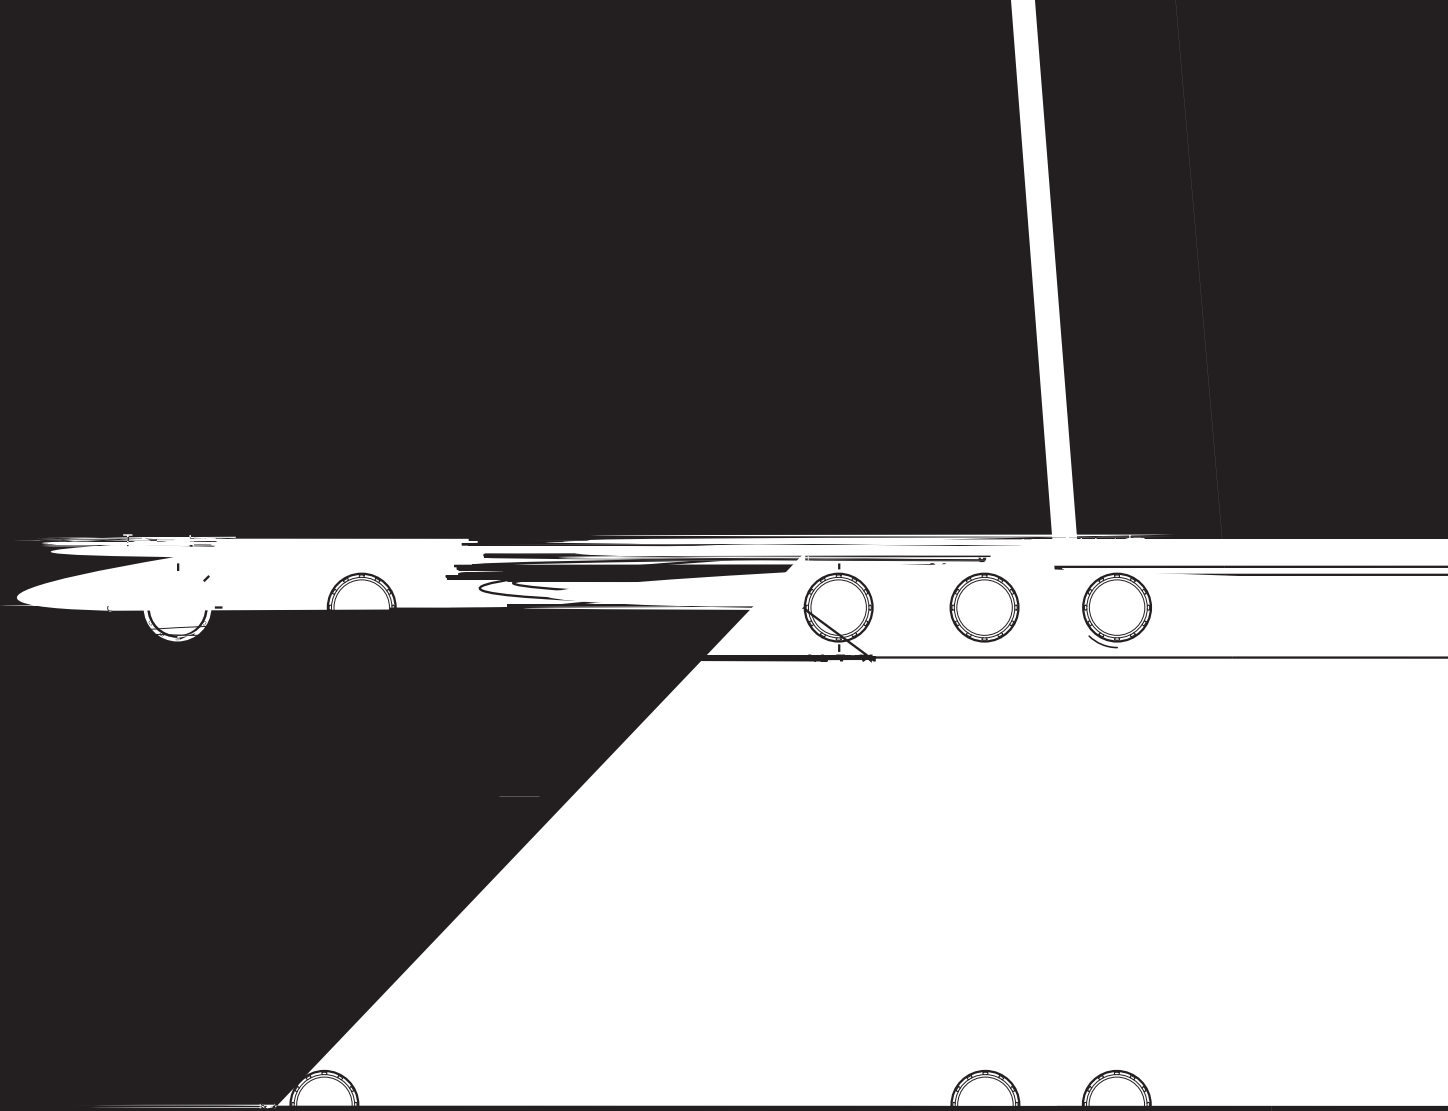
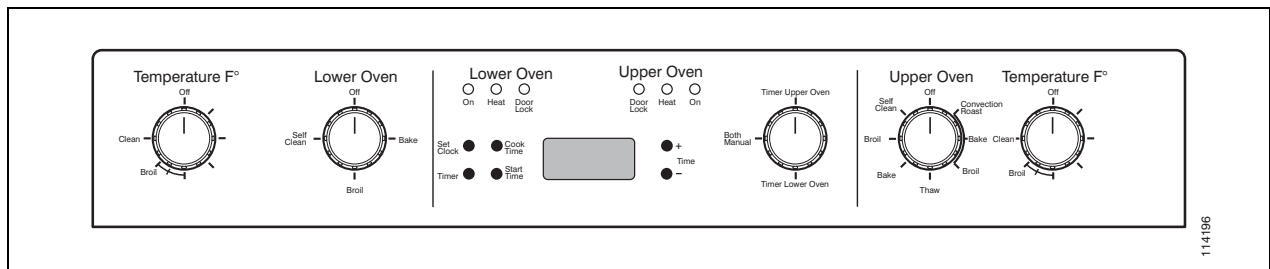

Figure 3.
Figure 7. Double Oven Control Panel, HBL/HBN45..
All the ovens have the following controls, as shown in Figure 3:
The double oven control panel is the upper panel shown in Figure 3 and the single oven control panel is the lower panel shown.
For manual operation of the oven set the Timer/Manual Selector knob (see Figure 3) to **Manual**. If you have a double oven, as shown above (Figure 7) you have three setting positions available:
1. Set Mode selector knob for the oven to the cooking mode desired. Refer to Figure 3 and Table 3 if you are not sure which of the knobs on your oven is the selector knob or which function you wish the oven to perform.
3. Set the Timer/Manual Selector (Figure 3) to Timer for the single oven or to **Timer Upper Oven or Timer Lower Oven** for double oven, so that oven programmer is enabled for the oven you wish to use in programmed operation.